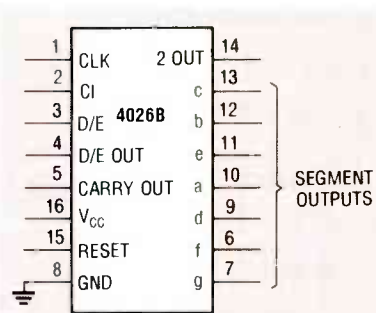

FIG. 21—PINOUT of the 4026B decade counter with 7-segment outputs.
Figure 21 shows the pinout of the 4026B, a complete decade counter with integral decoder/driver circuitry. It can drive a 7-segment common-cathode LED display directly. The segment output currents are internally limited to about 5 mA with a 10-volt supply or 10 mA with a 15-volt supply. Therefore, the display can be connected directly to the output of the IC without external current-limiting resistors. The 4026B does not include a data latch and is not capable of ripple blanking.
As shown in the Fig. 21, the 4026B has four input control pins and three auxiliary output pins. The input pins are designated: CLOCK (CLK), CLOCK INHIBIT (CI), RESET (RESET), and DISPLAY/ENABLE (D/E). The IC has a Schmitt trigger on its CLOCK (CLK) input line, and clock sig-